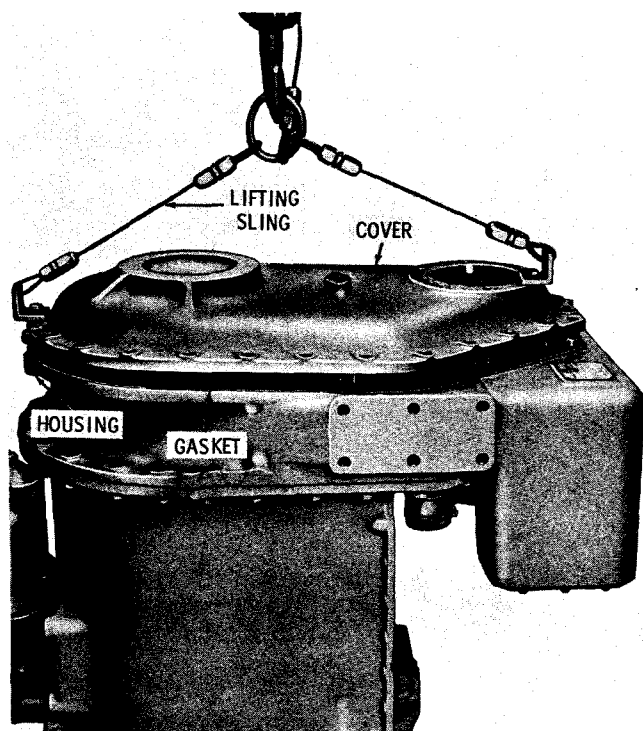

Fig. 7-121. Installing transfer gear housing cover
(11) On models equipped with an automatic-electric control system, install magnetic pickup 63 (A, foldout 18). Refer to the supplement at the back of the manual for adjustment procedures. Install the gasket onto the housing. Using a sling, install the cover. Retain the cover (and magnetic pickup shield 55 (B, foldout 18) if pickup is used) with twenty-six 1/2-13 x 1 3/4-inch bolts and lockwashers (fig. 7-121). Tighten the bolts to 67 to 80 pound feet torque.